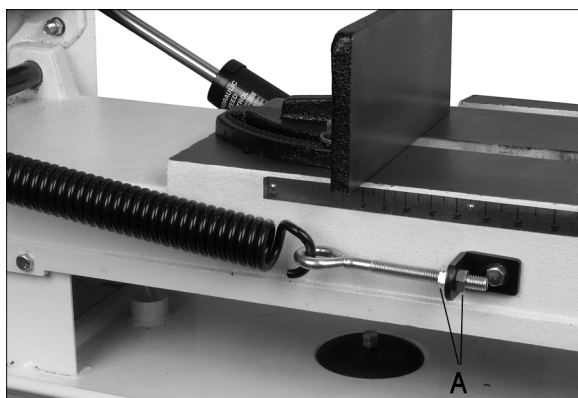

Figure 18
5. If adjustment is needed, loosen one nut and tighten the other (A, Figure 18) on the eye bolt until scale indicates 5 to 6 kg.